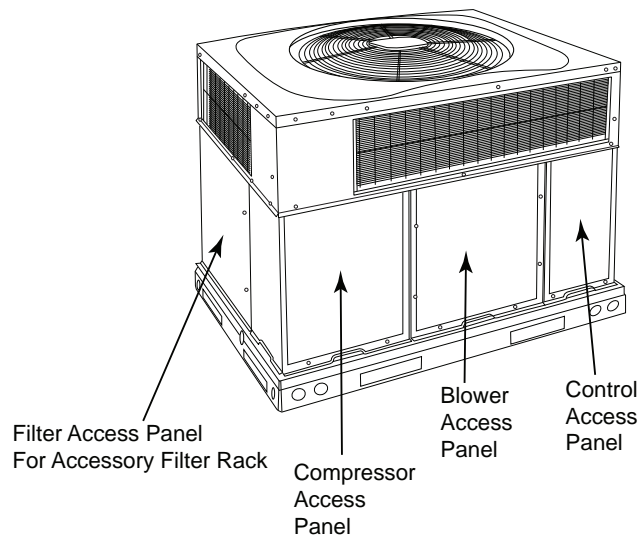
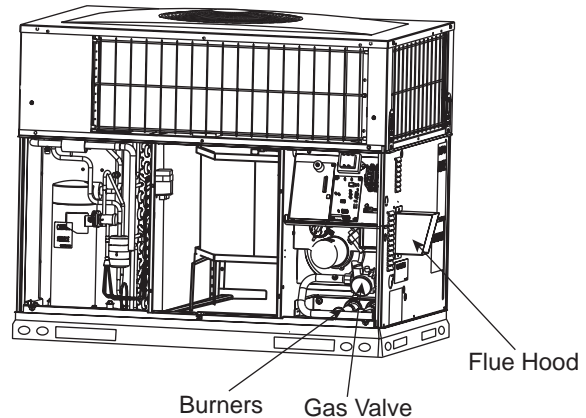

Fig. 2 - Unit Access Panel
Fig. 3 - Gas Heating/Electric Cooling Unit with Access Panel Removed
Refer to Fig. 2 for location of unit front access panel. Refer to Fig. 3 for location of gas valve. Refer to Fig. 4 while proceeding with the following steps.
4. Remove the control access panel with a 5/16-in. nut driver. (See Fig. 2.)
4. Remove the control access panel. (See Fig. 2.)